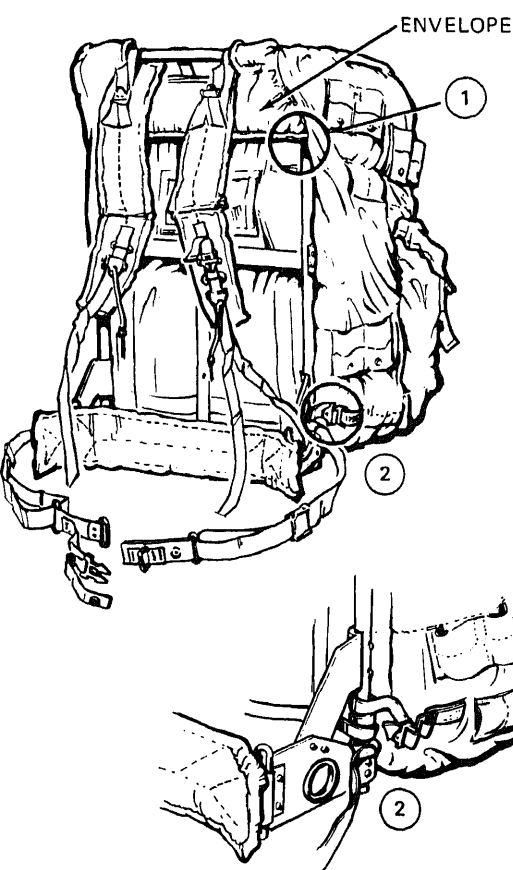

Figure 2-18.—Attaching the large pack to the frame.
CAUTION: When the medium pack is to be worn in extreme cold climates, it must be worn on the frame. See figure 2-18 for the manner
Figure 2-18 shows the large pack on the frame. To attach it to the frame, complete the following steps:
1. Insert the bare frame into the end of the pack. (See fig. 2-18, view 1.)
2. Secure the bottom of the pack to the frame as shown. Note that the webbing is looped over the frame TWICE before buckling. The shoulder straps and waist straps are attached as described. (See fig. 2-18, view 2.)